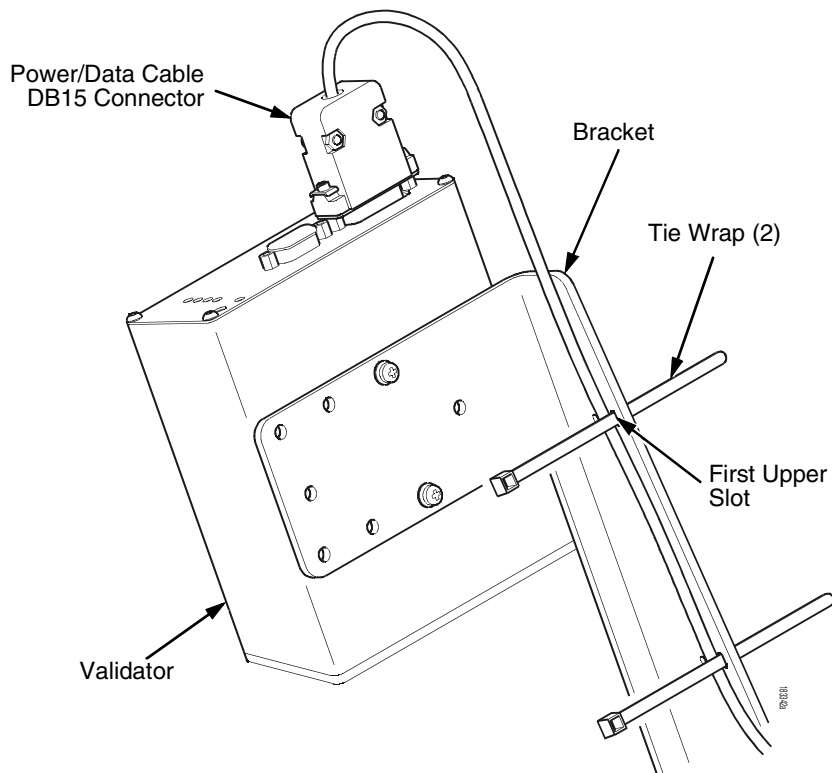

**Figure 12. Attaching the Validator/Bracket Unit to the Printer**
4. Using four M4x10mm screws, attach the validator/bracket unit to the printer frame as shown in Figure 12.